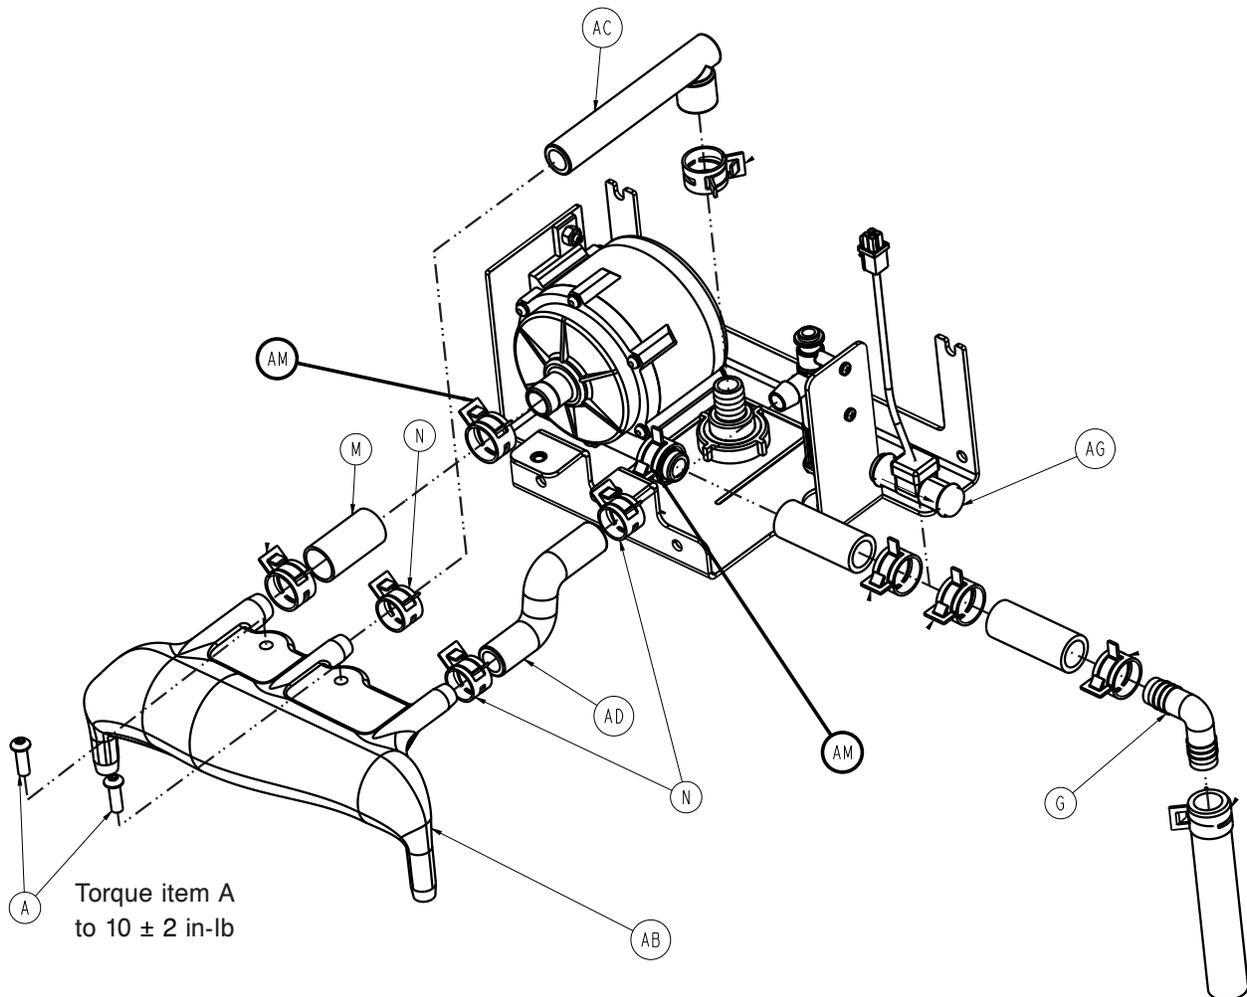

Figure 21 – Two hose clamps
10. Using needle nose pliers, squeeze the two hose clamps (AM) that secure the tubing to the fluid pump (Figure 21).